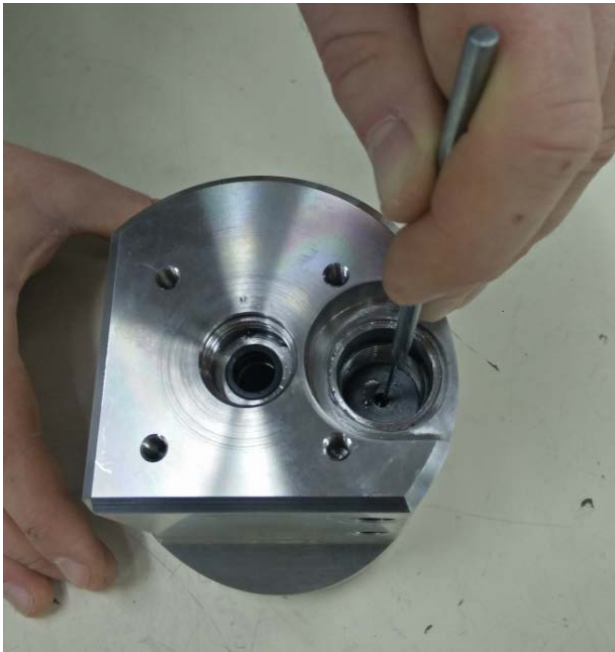

Figure 7 – Removing the HPS Seat
- 7.22 Working in a circular motion, remove the HPS seat (30623) from the body. See Figure 7 – *Small Pick.*